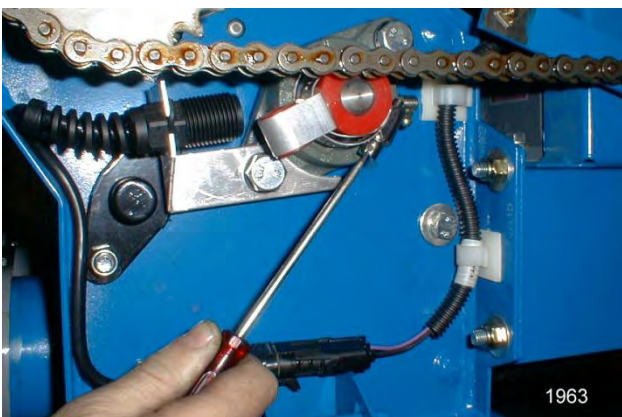

Fig. M10 Metershaft Sensor Magnet.
3. Remove the metershaft sensor magnet and shaft bush from the left hand side of the meterbox (Fig. M10).